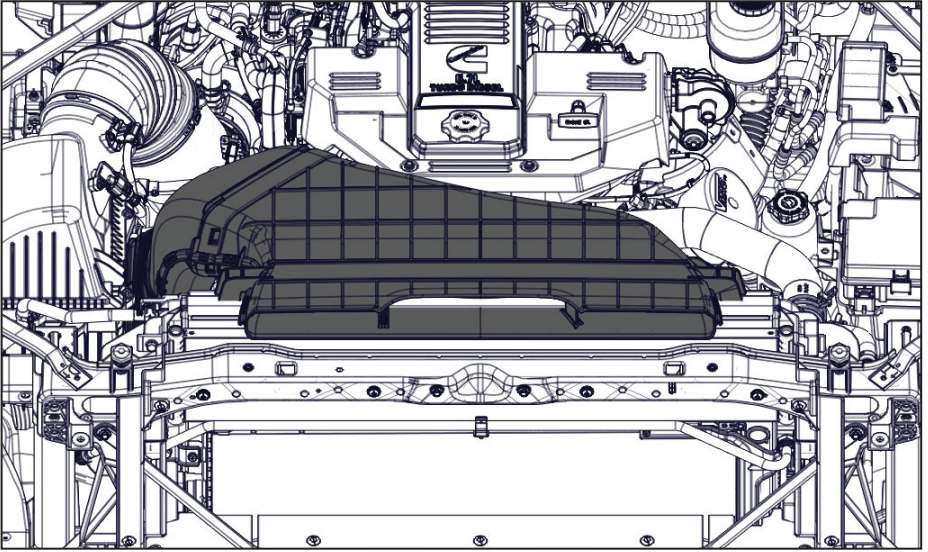

Figure 8 — Remove intake ducting
- Remove the radiator cover and intake ducting (Figure 8).